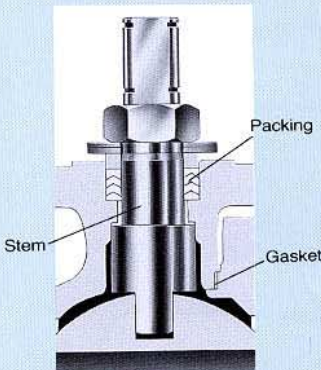

Fig. 5 (Before fire)
- Contact between stem and valve shell (Fig. 5 & 6)